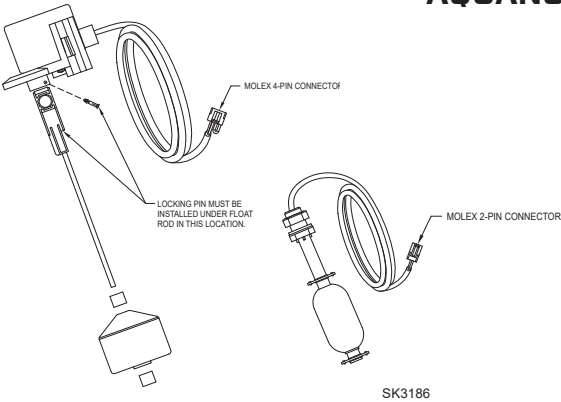

FIGURE 3
- Assemble the operational float assembly per Figure 3. Install float switches as seen in Figure 1. The top rubber stop is not needed unless the "on" level needs to be lowered.
11. Install the Spin Controller (see Figure 3) by using the anchors provided. For best cooling, install wall mount configuration. The controller should be located at least 3' (1 m) above the sump.
- (d) Check 30 amp fuse on controller (see fig. 3). If fuse is blown, replace with 30 amp automotive blade fuse.